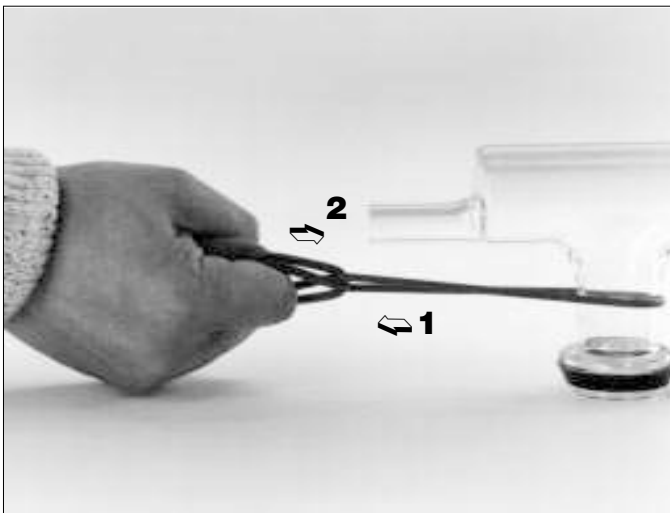

Fig. 11: Replacing the O-rings
- Fit new O-ring over the suction module (see Fig. 11)